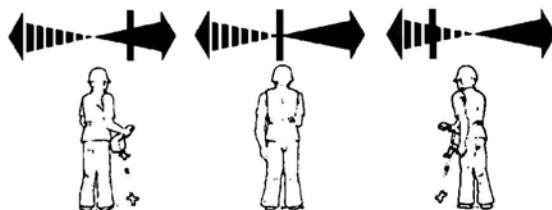

Figure 3-2: Checkout of Receiver Directional Meter
- 8 Point the Receiver to the left and right of the Transmitter centerline. The needle should follow the change in direction (solid arrow and continuous tone when you move right, broken arrow and broken tone when you move left). See Figure 3-2.